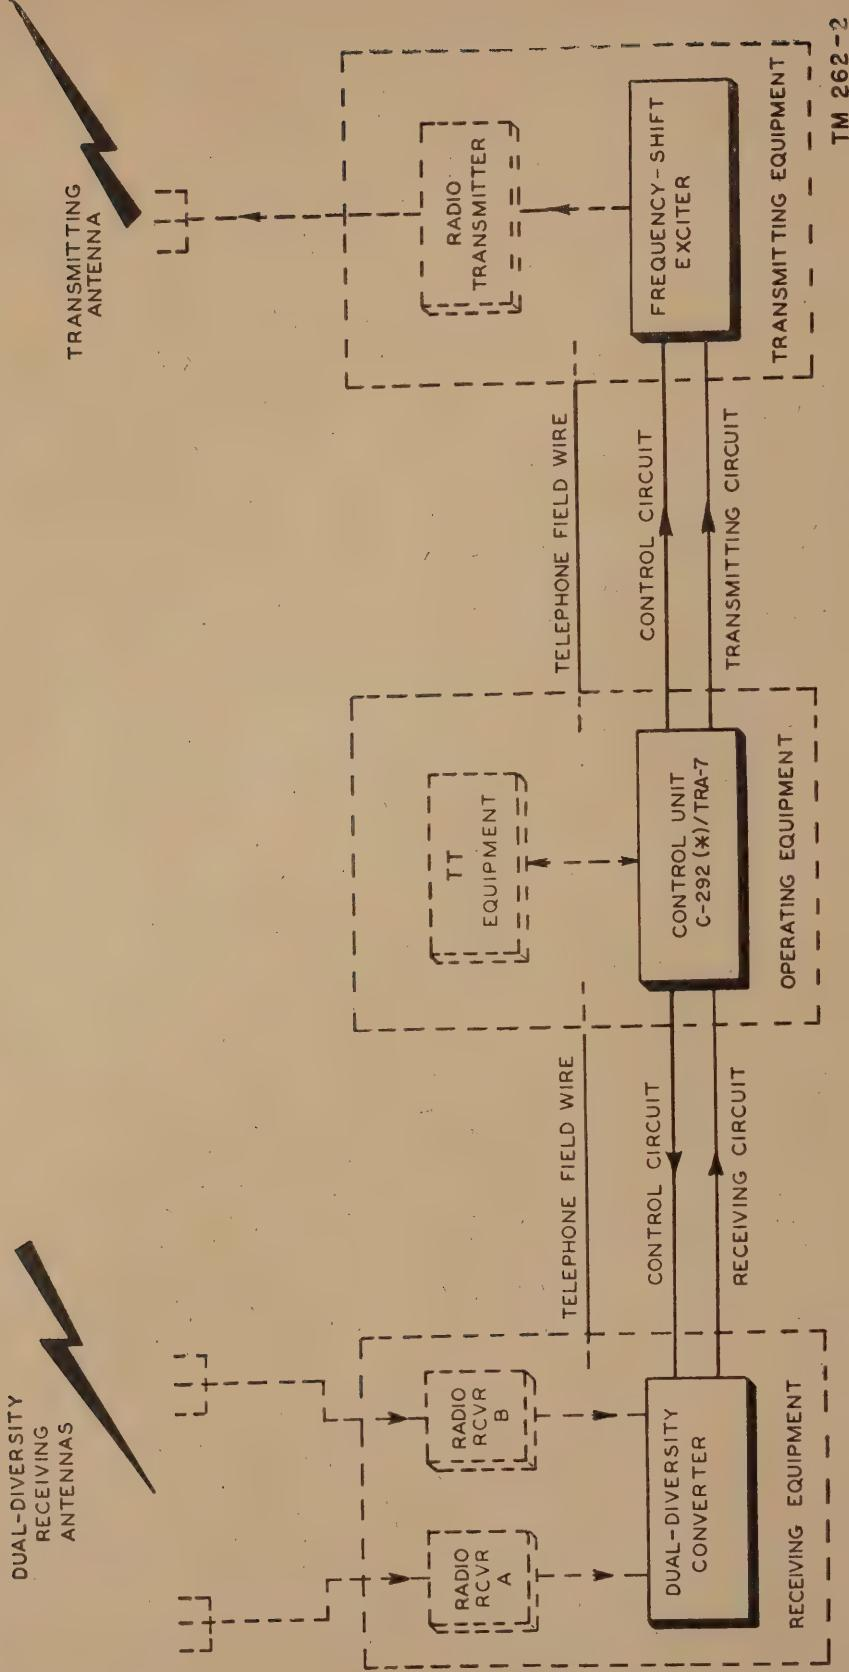

Figure 2. Block diagram of components comprising one terminal of radioteletype equipment
b. Figure 2 is a block diagram showing the relationship between the receiving equipment, the operating equipment, and the transmitting equipment located at one type of radioteletype terminal. These equipments may be in three separate shelters, as in Radio Set AN/MRC-2, or in one shelter, as in Radio Set AN/GRC-26.
(1) The receiving equipment consists of two radio receivers and a dual-diversity converter. Each receiver has its own antenna; these antennas are normally spaced several wavelengths apart. Such a system of space diversity reception reduces the effects of selective fading. The output of each receiver is applied to the dual-diversity converter, which combines the received frequency-shifted signals and converts the stronger receiver output into d-c (direct-current) neutral and polar signals. The neutral signals operate the printing mechanism of the monitoring teletypewriter in the receiving shelter, and the polar signals may be sent over land lines to an operating shelter.
(2) The operating shelter contains the